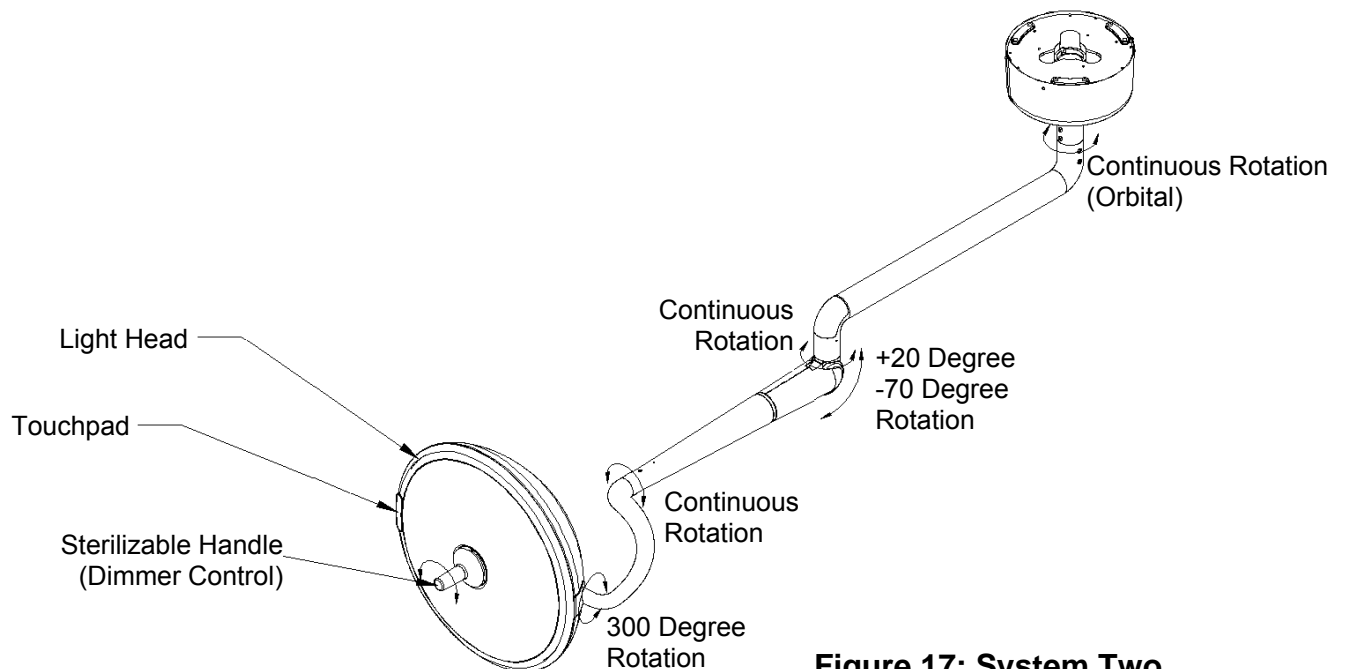

Figure 17: System Two Head and Arm Movement
- To position the light head and arm, firmly grasp the sterilizable handle and move the light head or arm to the desired location. (See Figures 17 and 18 for arm and head movements).